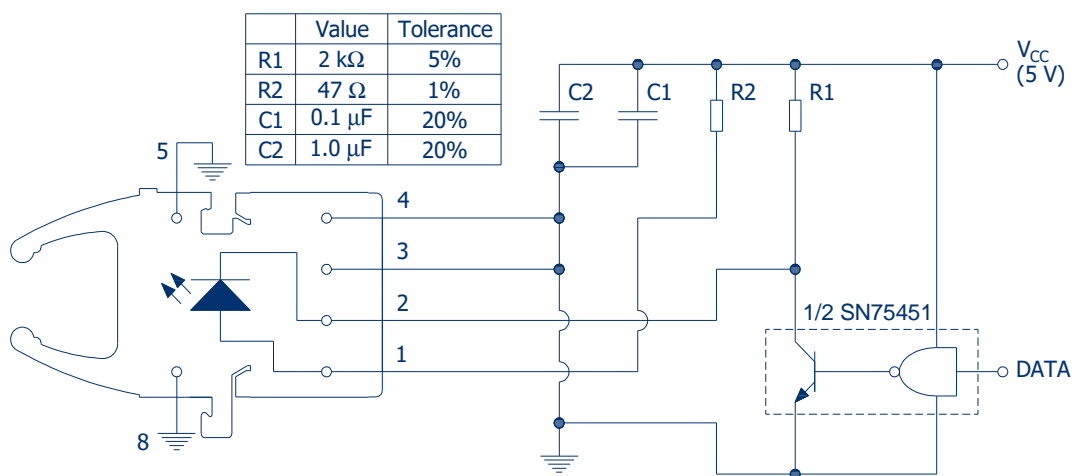

FIGURE 2
Transmitter propagation delay and rise/fall time definitions as per application circuit of Figure 2
4. As measured in the given application circuit (inverting) shown in Figure 2 over 50 cm of 0.5 NA POF